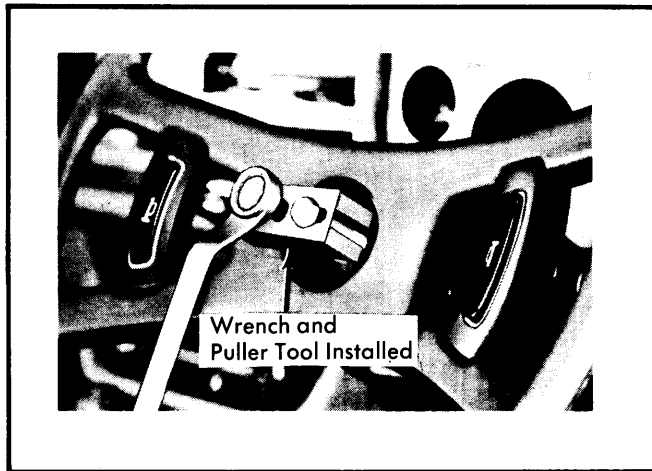

Fig. 1 Using Puller to Remove Steering Wheel
3) Remove steering wheel mounting nut and washer (if equipped), then using suitable puller, extract steering wheel from shaft (Fig. 1).